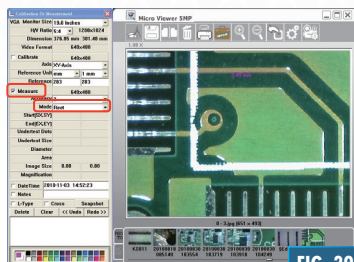

FIG. 39
3. Select the "Rectangle" Mode (**Fig. 39**).